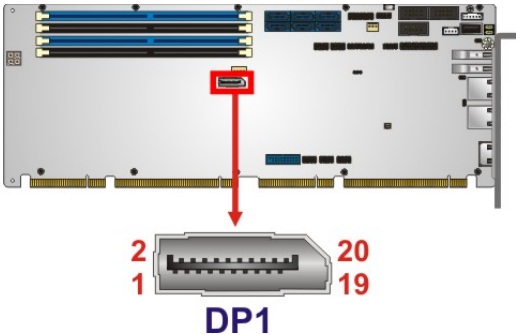

Figure 3-8: DisplayPort Connector Location
- CN Location:** See Figure 3-8